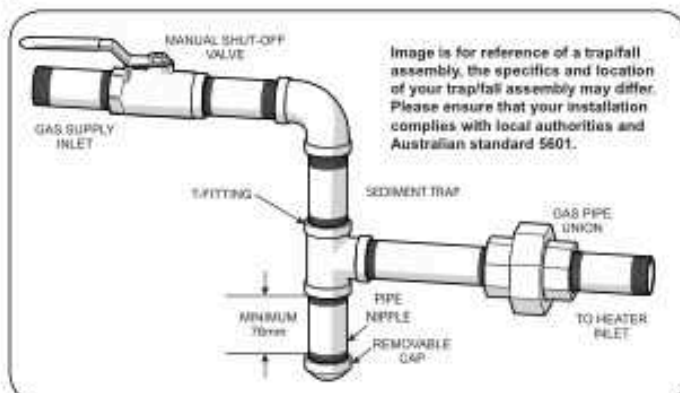

Figure 5. Manual Shut-off Valve and Sediment Trap
- Where required by local code, install a sediment trap/condensate fall and gas union in accordance with Australia standard 5601. See *Figure 5*.
Do not use flexible appliance connectors on any gas connections unless the connector is AGA approved for outdoor installation, and is marked with the BTUH capacity (which must be equal to or greater than the heater rated input) and the type of gas (Natural or LP). Also, any flexible connectors, such as CSST buried underground must be certified for underground installation and meet all applicable codes. Please note, use of flexible connector still requires the installation of a sediment trap. See *Figure 5*.